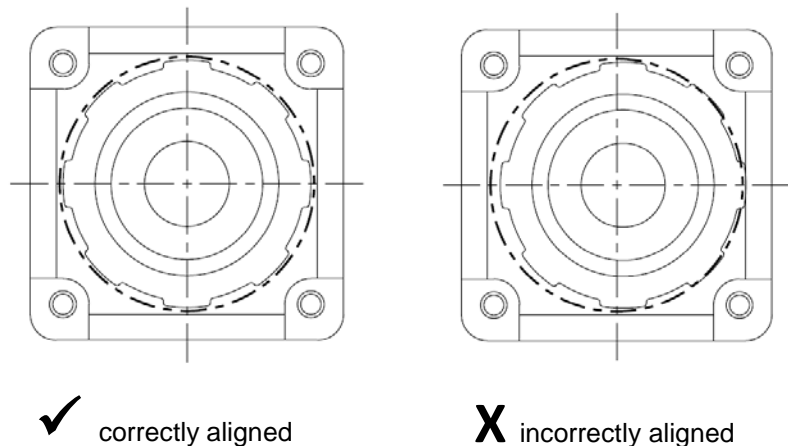

Fig. 15
**i CAUTION:** In order to ensure a leak-proof pump the diaphragm has to be properly centered in the pump housing, Fig. 15. If necessary adjust motor shaft slightly with screw driver until the diaphragm is centered.